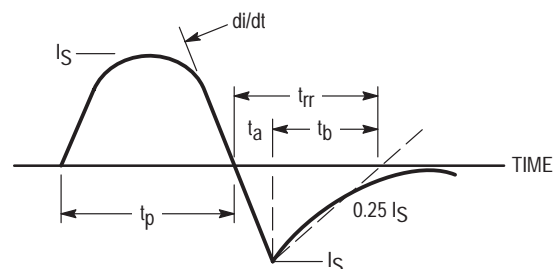

Figure 3-7. Diode Reverse Recovery Waveform
**Reverse Recovery Time ( $t_{rr}$ ,  $t_a$ ,  $t_b$ ,  $Q_{RR}$ )**— The intrinsic body diode of a power MOSFET is a minority carrier device and thus has a finite reverse recovery time.  $T_a$  is defined as the time between the dropping  $I_S$  current's zero crossing point to the peak  $I_{RM}$ .  $T_b$  is defined as the time between the peak  $I_{RM}$  to a projected  $I_{RM}$  zero current crossing point through a 25%  $I_{RM}$  projection as shown in Figure 3-7. Total reverse recovery time,  $t_{rr}$ , is defined as the sum of  $t_a$  and  $t_b$ .  $Q_{RR}$  is defined as the integral of the area made up by the  $I_{RM}$  waveform and  $V_R$ , the reapplied blocking voltage which forces reverse recovery.